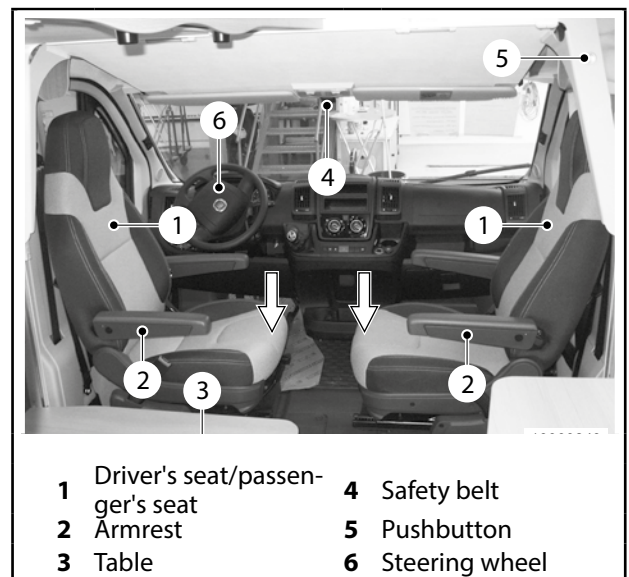
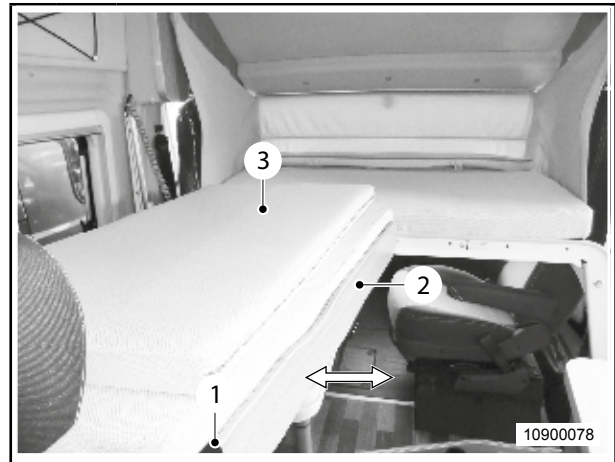

Fig. 46 Lowering the lifting bed
Fig. 47 Pulling out the lifting bed
1. Loosen safety belts (Abb. 46, item 4) and (Abb. 47, item 1) on the lifting bed.
2. Set the driver's seat and the passenger's seat (Abb. 46, Pos.1) to the lowest position and move the seats into the positions shown.
3. Lower the armrests (Abb. 46, item 2).
4. Remove and stow away the table (Abb. 46, item 3).
5. Push the button (Abb. 46, item 5) and pull the lifting bed downward into its end position.
6. Pull out the lifting bed pullout (Abb. 47, item 2) towards the entrance door and put the second mattress (Abb. 47, item 3) in place.